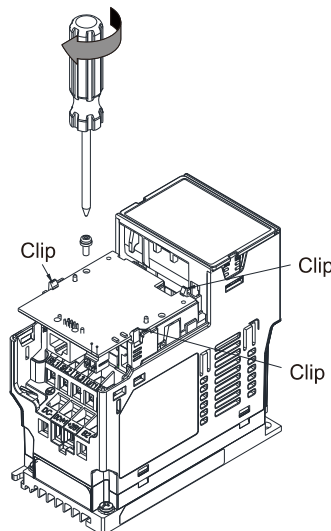

Figure 8-12
6. Make sure that three clips properly engage the option card and then tighten the screws (suggested torque value: 4–6 kg-cm [3.5–5.2 lb-in.] [0.39–0.59 Nm]), as shown in Figure 8-12.